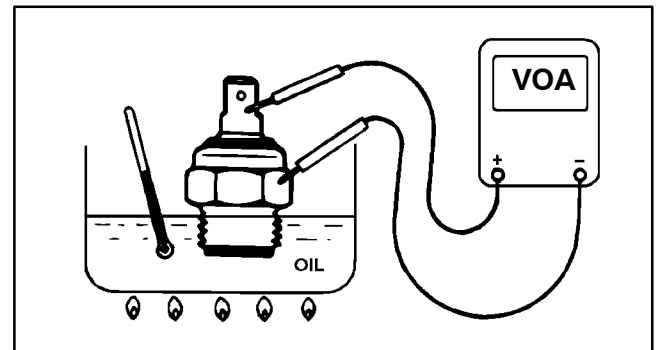

Figure 31
2. Put switch in a container of oil with a thermometer and slowly heat the oil (Fig. 31).